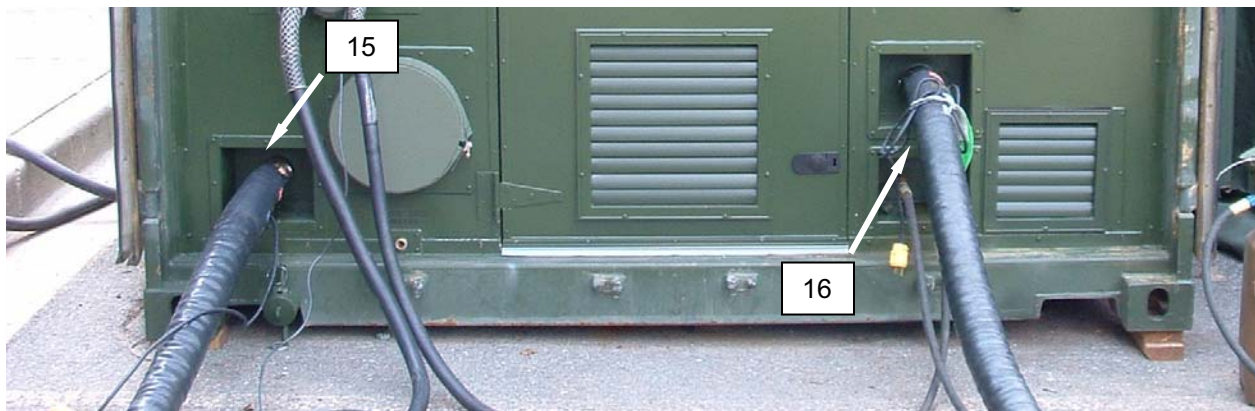

Figure 23. Disconnect Hoses during NBC Imminent or Actual Attack.
10. Disconnect the waste water hose (**Figure 23, Item 15**) and water supply hose (**Figure 23, Item 16**) from the service wall.